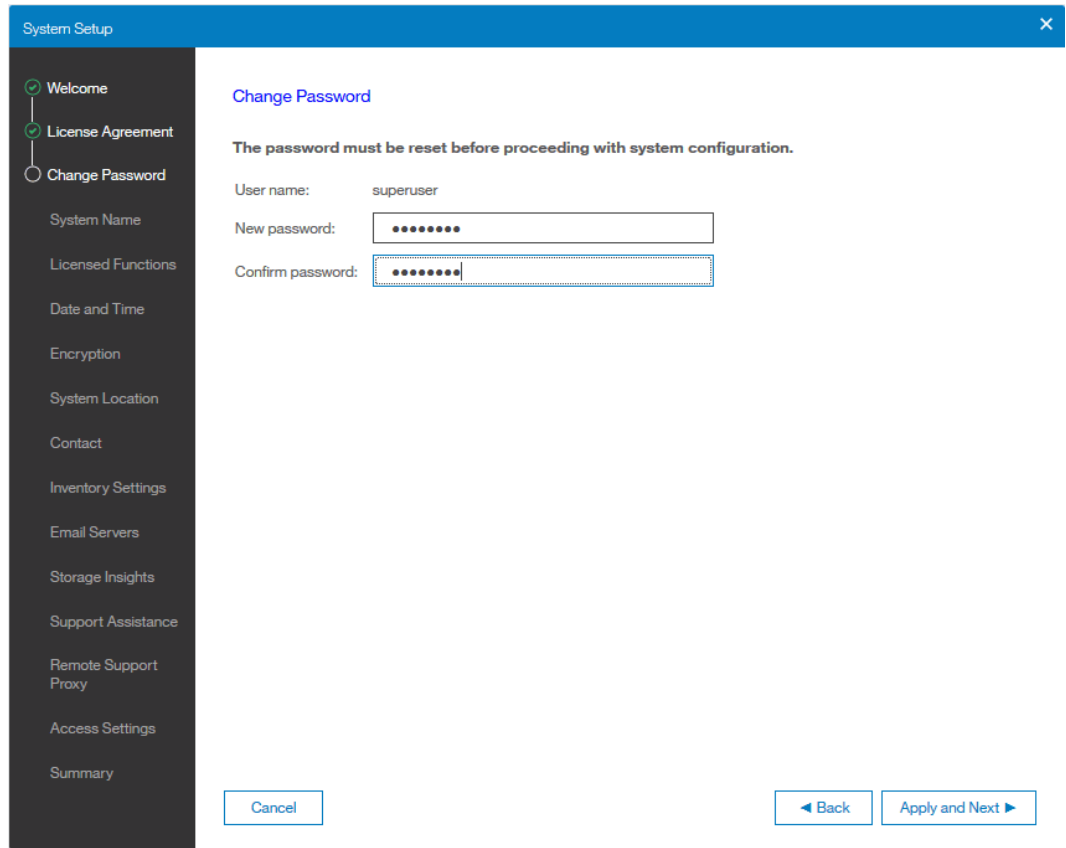

Figure 2-25 Setup wizard: Change password
5. Change the password for superuser from the default, as shown in Figure 2-25. Then, click **Apply and Next**.